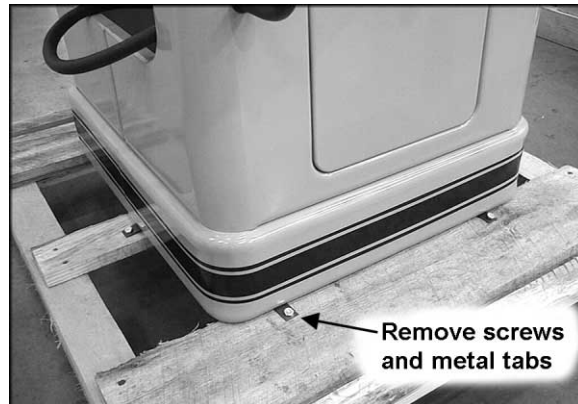

Figure 2
3. With a 7/16" wrench, remove the lag screws (Figure 2) holding the saw to the wood pallet. Carefully slide the saw from the pallet onto the floor.
4. Tilt the saw, and pop off the metal tabs (Figure 2) that secured the saw to the pallet, by pushing down on them with your foot.